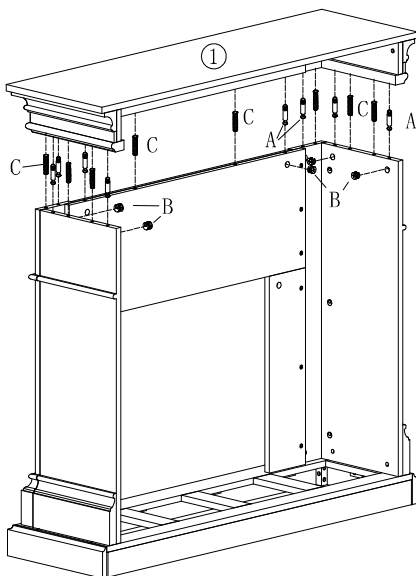

Figure 5
AFTER FINISHED FIGURE 5,THEN INSERT (J) INSERT TO THE RELATED PLACE OF MAIN BODY, THEN INSERT (D) WOOD SCREW TO CONNECT (6) INNER FIXED BAR WITH MAIN BODY. FINALLY USE SCREWDRIVER TO LOCK IT TIGHTLY.